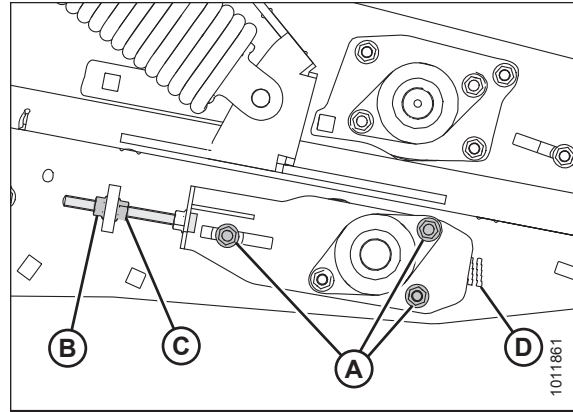

Figure 6.224: Rear Deck – Right Side Shown
8. Tighten clamp bolts (A) and jam nut (B).
9. Note the position of indicator (E) and set the right side [(D), Figure 6.224, page 202] to the same position.